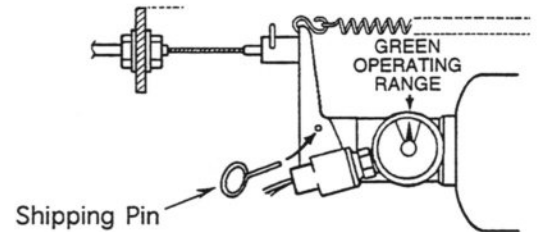

Figure 3
4. Insert shipping pin into valve handle (Figure 3). (Note: when inspecting pre-installed systems, the shipping pin will already be in place.)